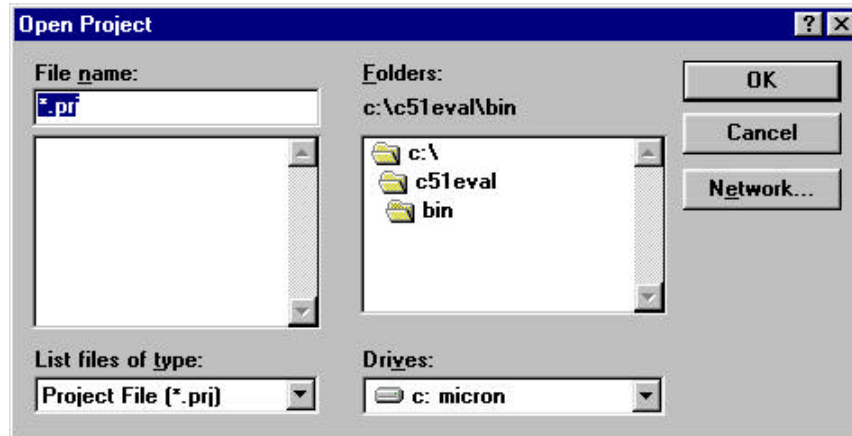
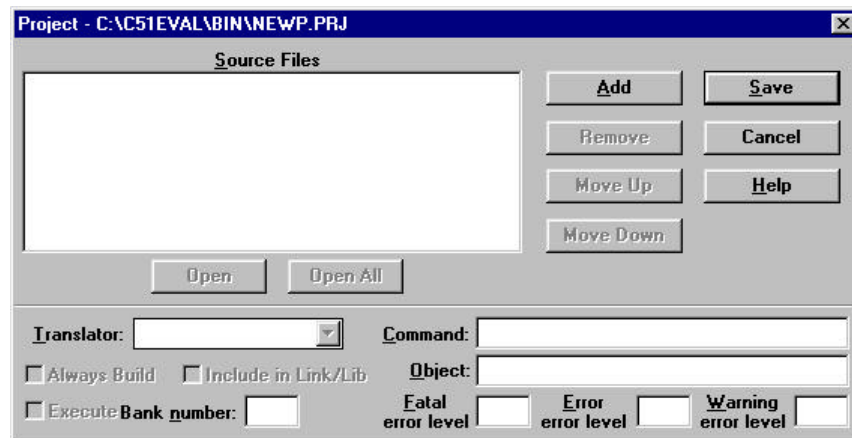

FIGURE 3a
FIGURE 3b
1. Open the Project menu and choose New Project. The window shown in Figure 3a appears except that *.prj shows under *File name* instead of newp.prj.
2. Enter the name of the project you are creating. For this tutorial, enter the name *newp.prj* and press *OK*. *Newp.prj* will be entered under File name: as shown in Figure 3a. Figure 3b will open up.